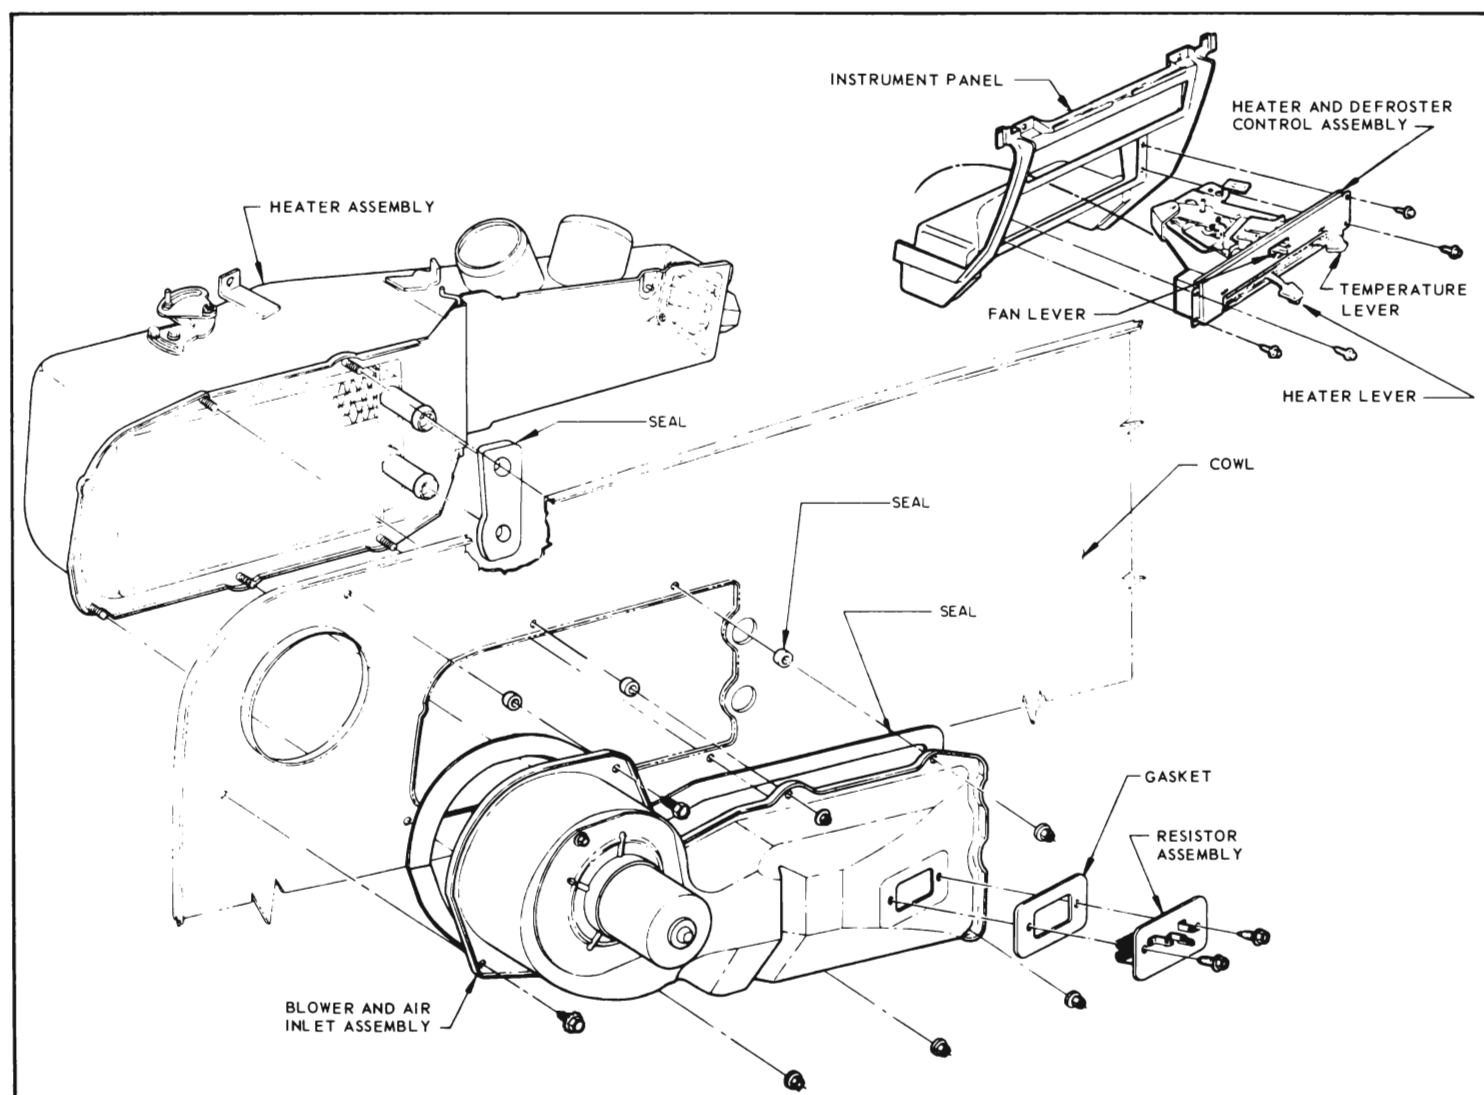
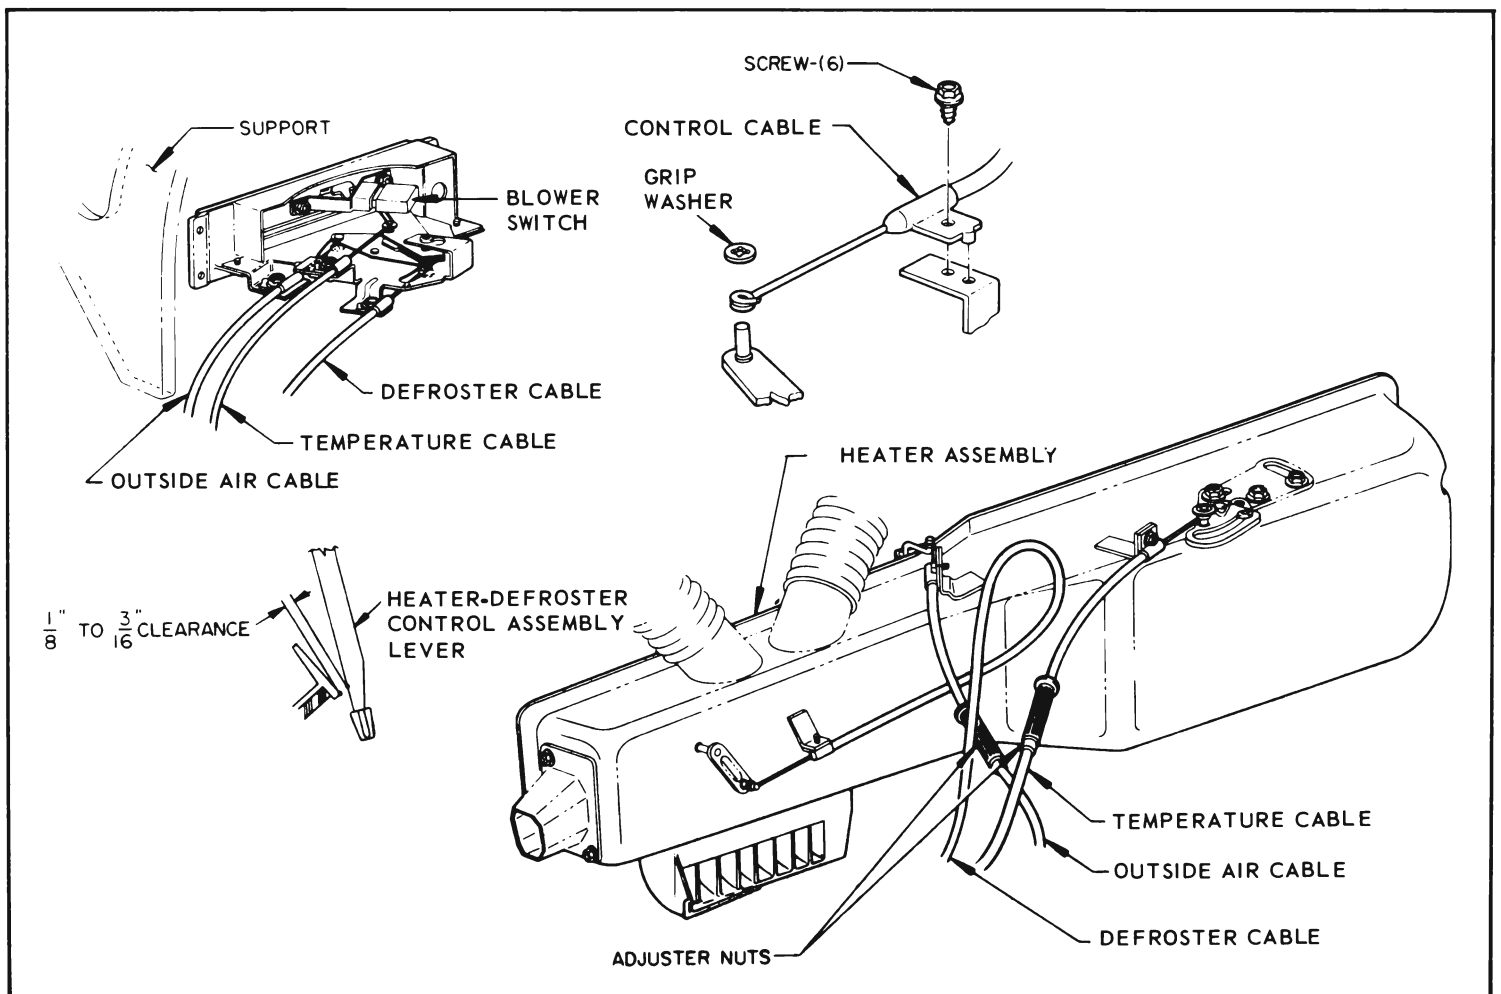

Figure 11-30—Heater System - 45000, 46000 and 48000
Figure 11-40—Control Cable Installation - 45000, 46000 and 48000 Series
The heater system consists of three major assemblies: (1) a blower and air inlet assembly (see Figure 11-30) which contains
1. Assemble control cable to instrument panel control (see Figure 11-40).
Removal of the blower and air inlet assembly (see Figure 11-30) will require prior removal of the right front fender. Refer to Group 12 for fender installation drawings. Removal of all other components will be obvious upon inspection (see Figures 11-30 and 11-33).
45000, 46000 &amp; 48000 Series  1. Blower motor inoperative.	1a. Check fuse. 1b. Check for defective heater blower switch (see Figure 11-40). 1c. Check motor ground wire. 1d. Check for defective blower resistor assembly (see Figure 11-30). 1e. Check for loose connectors or broken wires.